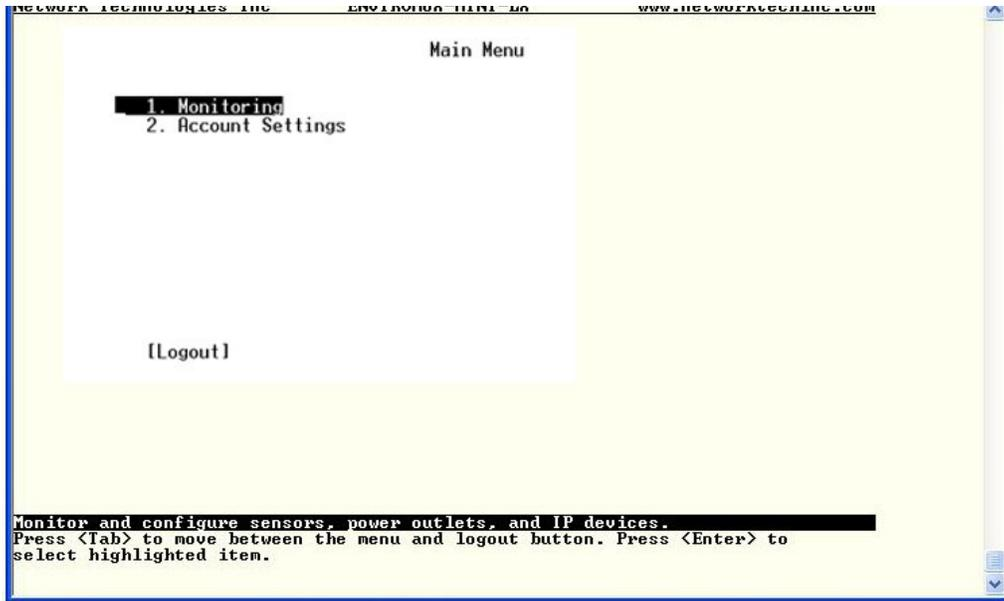

Figure 70- Text Menu- User Main Menu
- To move from menu list to action key (such as “Logout” in Figure 70 above), press <Tab>.